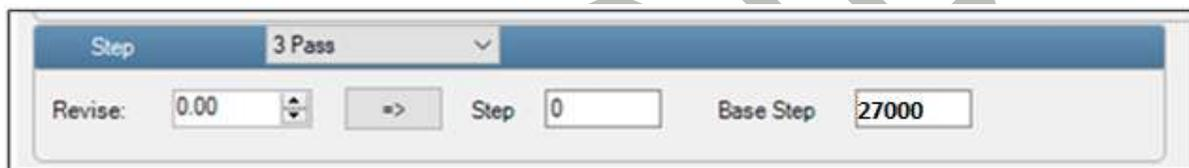

Fig 58: The Step Calibration Parameters
Step 1: Select the desired pass from the list and click on the **Print** button (Refer to Fig 58).
Step 2: Feed the correction value in the **Revise** field (the correction value up to two decimal places) (Refer to Fig 58).
Step 3: Click on the => icon (Refer to Fig 58) on the Step Calibration window. The correction value result will be reflected in the **Step** field (Refer to Fig 58). The same step value will also be displayed in the **Steps** field on the **Quick Access Toolbar**.